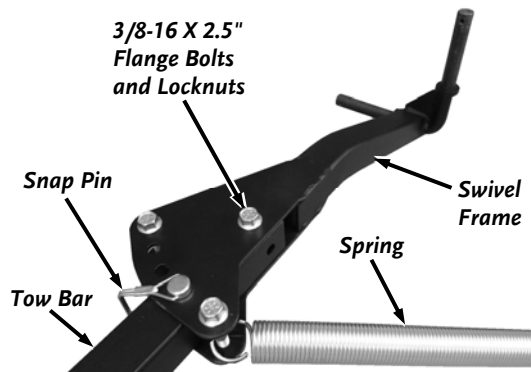

Figure 5
3. Secure the Tow Bar to the Swivel Frame with a Flange Bolt and Locknut at the end of the Tow Bar and the Snap Pin in the forward hole location (**Figure 5**).